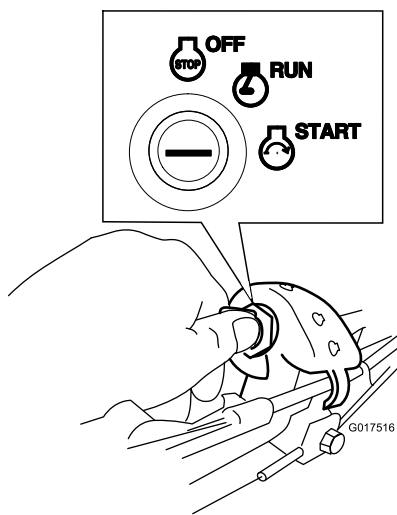

Figure 18
- **Ignition Key:** Turn and hold the ignition key to the Start position (Figure 18); when the engine starts, release the key.
1. Turn the ignition key to the RUN position (Figure 18).